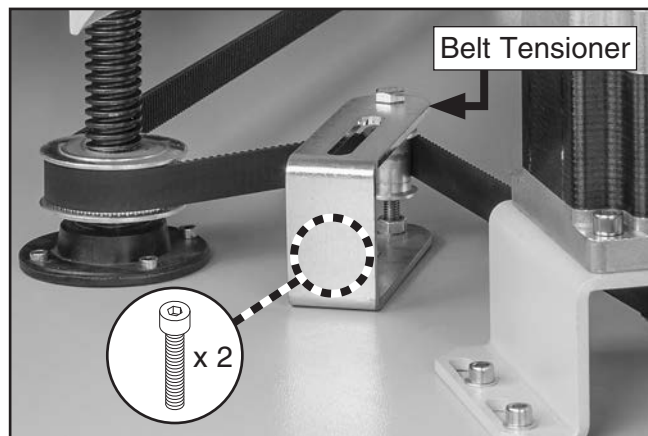

Figure 79. Z-axis belt tensioner components.
6. To adjust belt tension, loosen (2) cap screws on belt tensioner, adjust belt tensioner towards or away from belt, then secure cap screws (see **Figure 79**). Repeat **Step 5**.